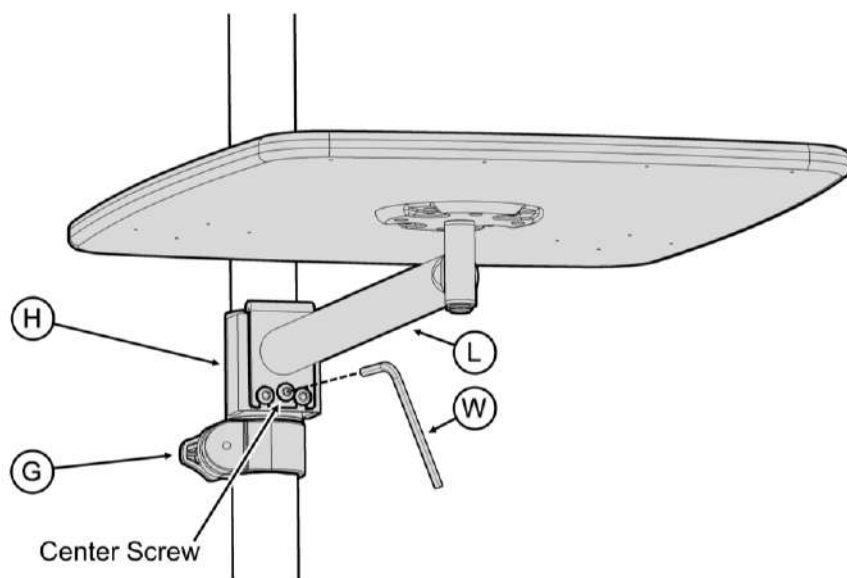

FIGURE 17
16. Use Center Screw on **L** to level tray. Once level, firmly tighten two outer screws on **H** to lock in place. *FIGURE 17*